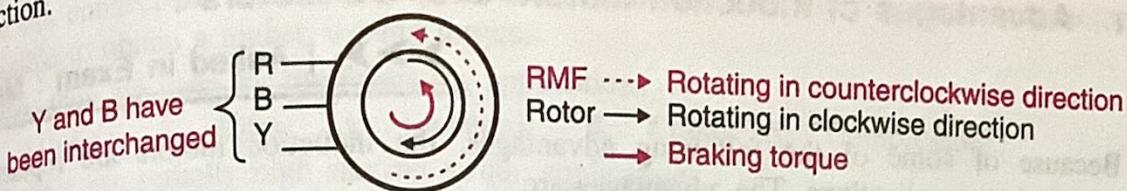

Fig. 8.9.3 : Plugging or counter current braking
- This is achieved by interchanging any two phases of the stator supply as shown in Fig. 8.9.3.